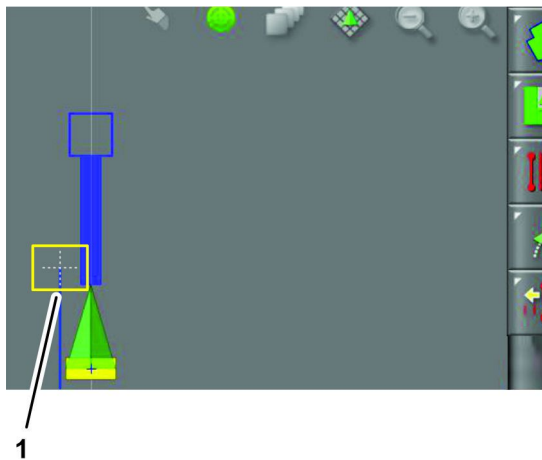

Figure 201
3. In the boundary offset settings box, press the confirm icon (Figure 201).
Note: The boundary recording-point in the display updates (Figure 201).